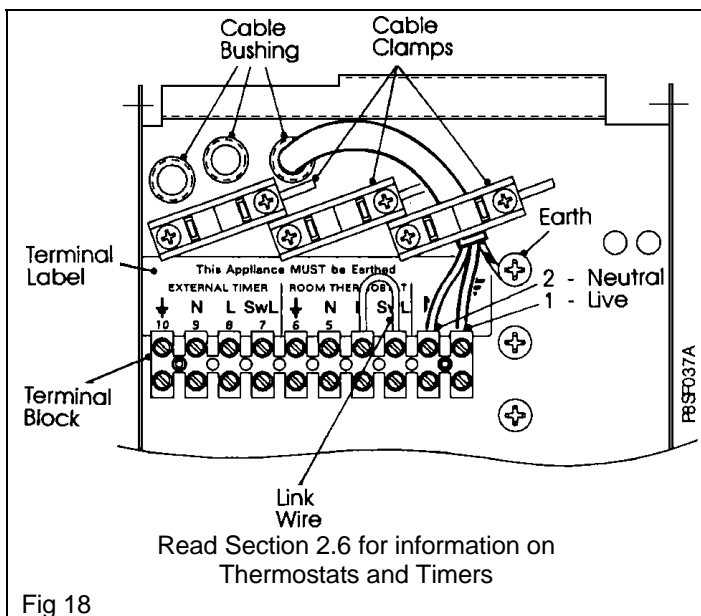

Fig 18
- Using PVC insulated cable of not less than 0.75 mm² (24/0.2mm to BS 6500 Table 16), wire up the panel referring to the termination label. (Fig. 18).